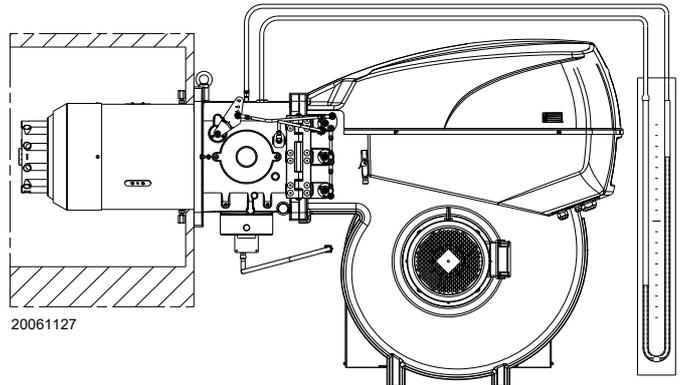

Fig. 27
- Fit a U-type pressure gauge or a differential pressure gauge (Fig. 27), with socket (+) on the gas pressure of the pipe coupling and (-) in the combustion chamber.
The arrival of gas at the pipe coupling is indicated by the U-type pressure gauge (Fig. 27). If further burner lockouts occur, refer to the “Release procedure” given in the equipment manual supplied. Once the burner has ignited, proceed with the global adjustment of the burner.